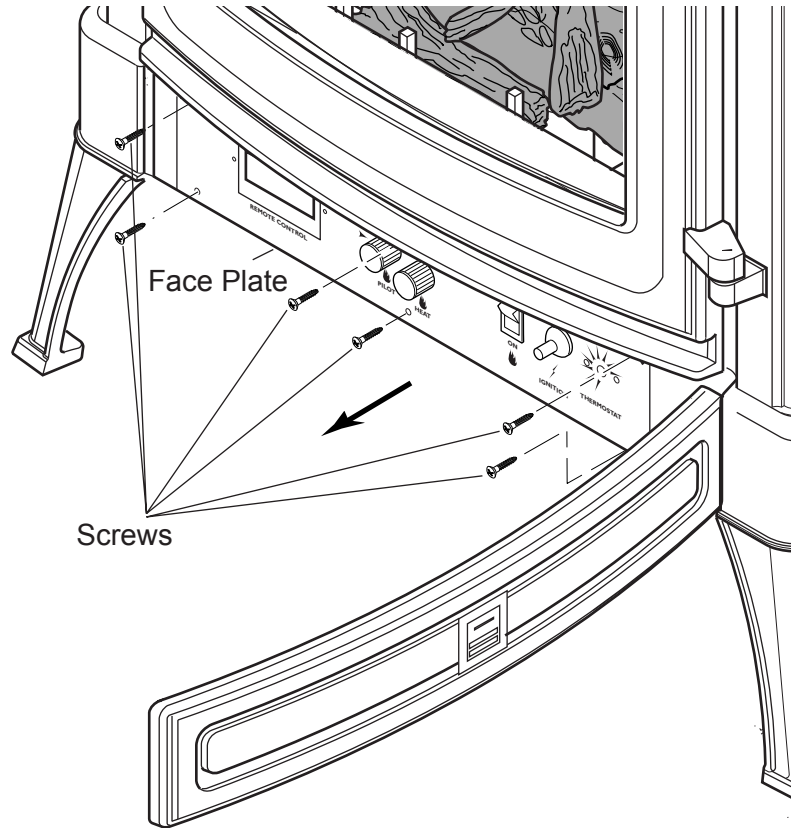

Figure 8 - Removing Face Plate from Stove
1. Remove the face plate by removing the six screws holding the faceplate in place. This will allow you to pull the faceplate away from the unit about 3" to 4". See *Figure 8*.
3. Attach wiring harnesses to back of t-stat sensor. See *Figure 8*. Attach the other ends of the harness to either TP/TH and TH on control valve or to existing wiring harness with two (2) 0.250" male spade terminals for remote t-stat operation. See *Figure 8, page 13*.